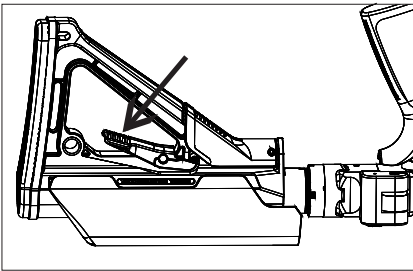

Figure 32 - CTR Release Lever
3. Locate the release lever on the CTR shoulder stock and note that it is spring loaded and when you push down on the lever it returns to its original position. (Fig 32)